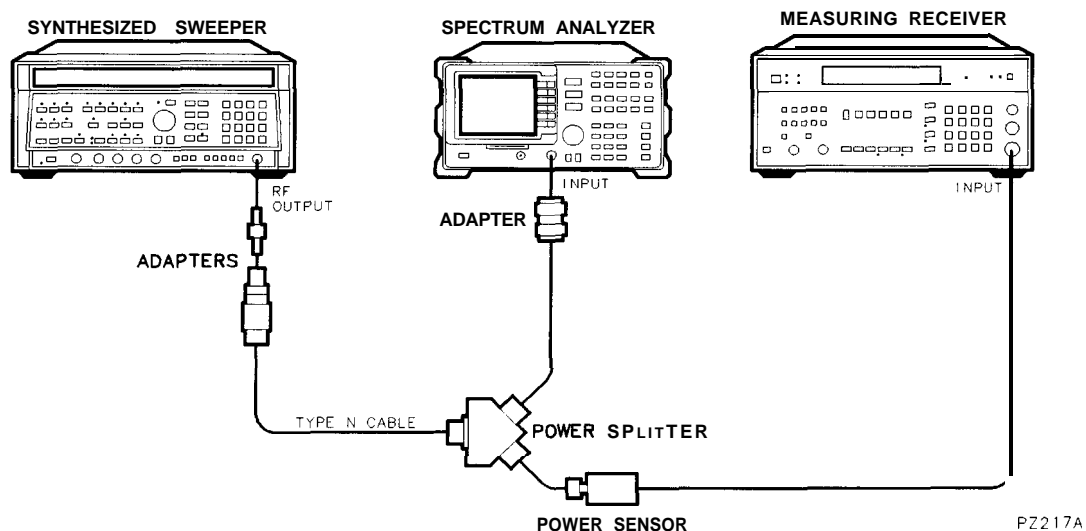

Figure 8-2. Power Calibration Verification
7. Connect the equipment as shown in Figure 8-2. Connect the power splitter to the spectrum analyzer using an adapter.